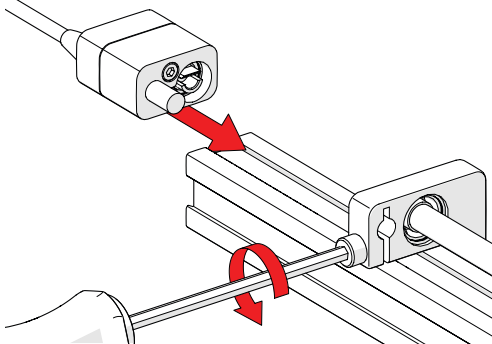

Fig. 64 - Loosen and slide post in place
1. To install the index encoder, loosen the clamp screw of the index encoder support bracket with the supplied 3 mm hex driver (*Fig. 64*).